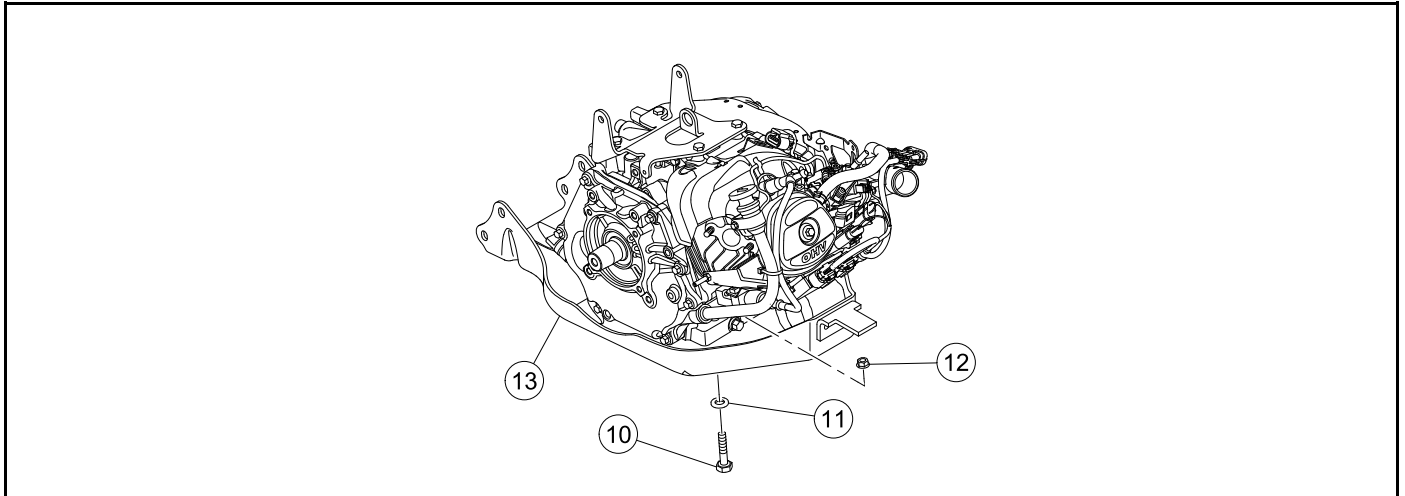

Figure 20-5 Engine Pan Installation
3. Place the engine onto the engine pan (13) and secure with mounting hardware (10, 11, and 12) (**Figure 20-5, Page 20-5**). Tighten the nuts to 33 ft·lb (40.6 N·m).